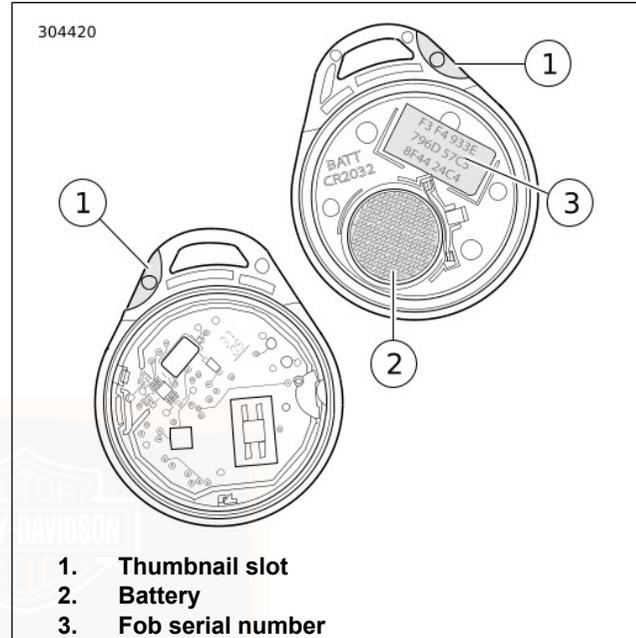

Figure 36. Fob Battery
1. See Figure 36. Slowly turn a thin blade in the thumbnail slot (1) on the side of the fob to separate the two halves.
2. Remove the battery (2) and discard.